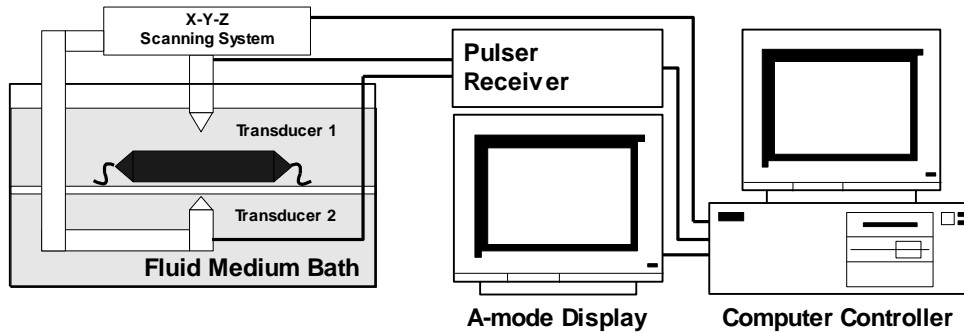

Figure 7 — Diagram of a Through Transmission Acoustic Microscope System
Through Transmission Acoustic Microscope - An acoustic microscope that transmits ultrasound completely through the device from a sending transducer to a receiver on the opposite side. See Figure 7.
3.2 Through Transmission Acoustic Microscope System (see Figure 7) Comprised of: